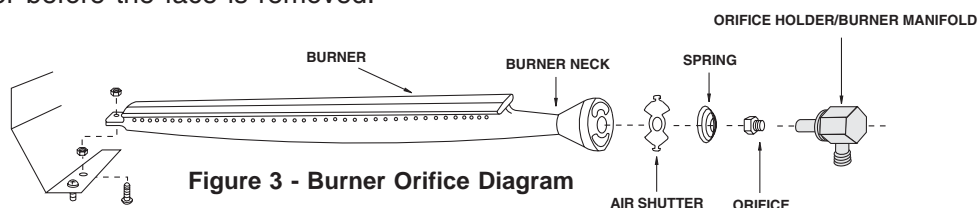

Figure 3 - Burner Orifice Diagram
f. After checking orifice drill size, install the air shutter spring and the air shutter over the orifice holder fitting, between the burner and the pipe manifold, in the order and position shown in Figure 3.
Fire Magic burners are constructed of heavy-duty cast stainless steel (Cast Brass and Porcelainized Cast Iron Burners are also available) and will withstand many years of outdoor use, if ordinary precautions are taken. Once or twice a year inspect the burners and determine if dirt or debris is building up excessively. Burners can be removed and scraped to remove debris from ports. Replace burners immediately if they show any signs of weak or thin walls. Refer to the bottom of page 4, Figure 3 for installing burners.